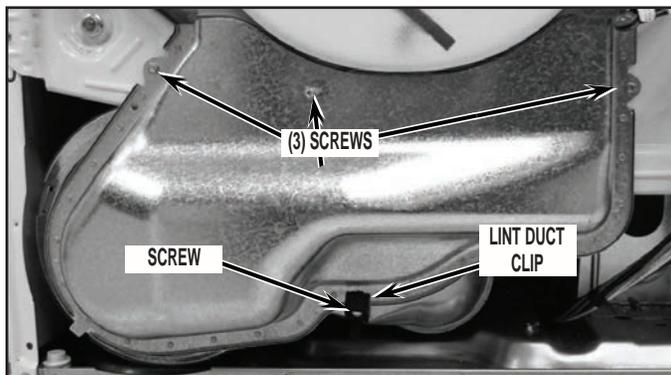

FIGURE 13
16. Remove lint duct by removing the four (4) screws and clip as shown in *Figure 13*.